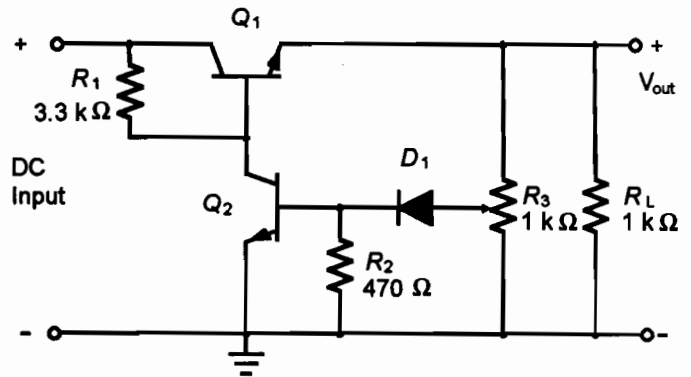

Figure 69.1
1. Construct the circuit of Figure 69.1. Set the potentiometer  $R_3$  to approximate mid-range.
2. Describe what changes you would make to the circuit of Figure 69.1 to make a fixed 9-V regulator capable of providing 0.5-A load current with a DC input of 12.5 V.
3. In a series-pass regulator like that of Figure 69.1 the pass transistor configuration is \_\_\_\_\_.
4. In a series-pass regulator like that of Figure 69.1, the output voltage should be approximately 0.7 V less than the base voltage of the pass transistor.